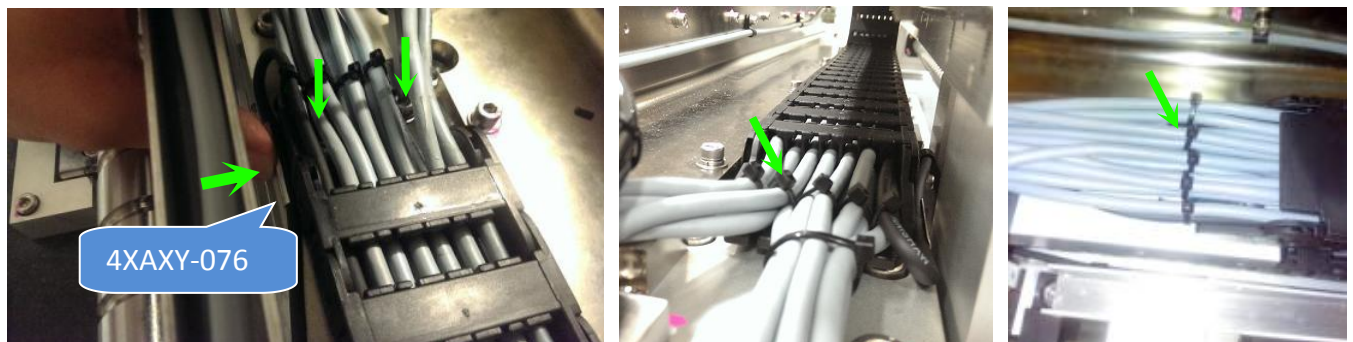

Figure 39 Stepper Motor Cable Routing (X Axis E-Chain)
41. Gently push BRACKET, ENCODER CABLE (P/N, 4XAXY-076) towards rear side .Tighten 2x screws, & reassemble E-Chain cover. Secure Cable with cable tie as below Figure 39